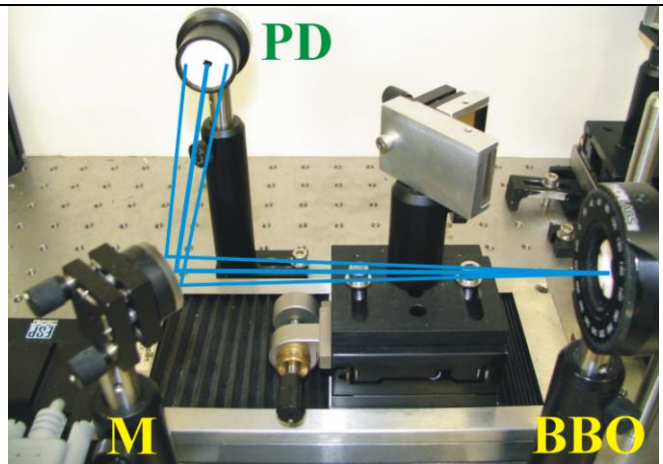

FIGURE 40
6. Beyond BBO blue beams are directed onto the Si photodiode with the silver mirror. The silver mirror should be adjusted such that the middle beam passes through the paper mask as shown in FIGURE 40. The two outside beam should be visible on either side of the card.